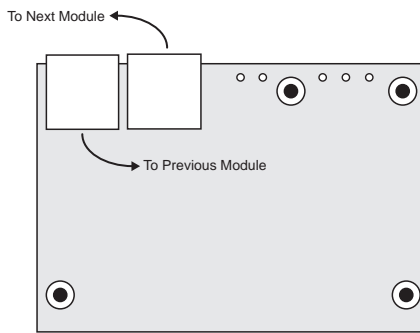

Figure 18.23 Panel Module Controller (PMC) — Module Control Link Connectors
8. Connect and secure the Module Control Link **Cables** to the module you are installing (**Figure 18.23**). This CAT5 (TIA/EIA-568-B) cable delivers all the command signals to and from the module, as well as other modules in the same row.